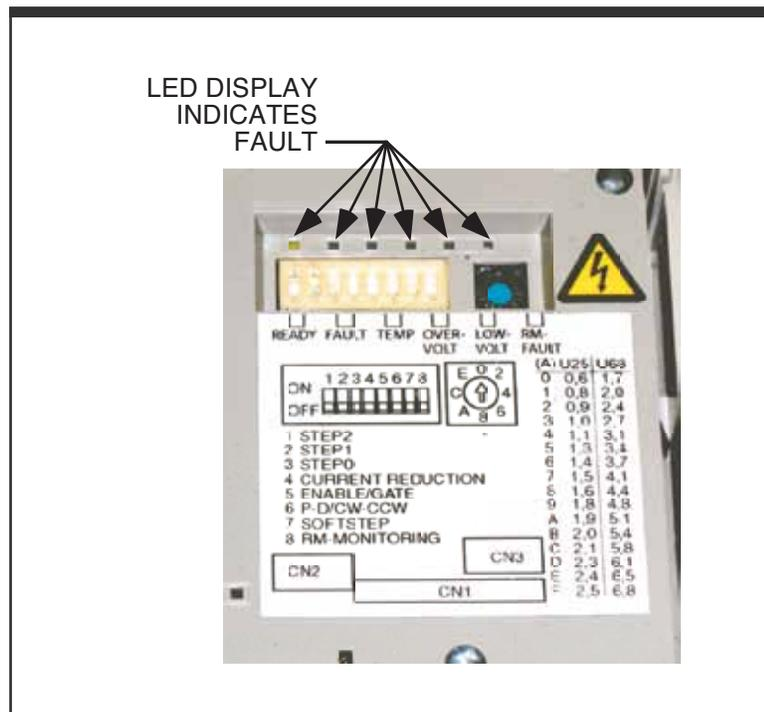

Figure 6-1. Stepper Drive Motor Fault Display
Stepper driver errors can be: over-temperatures (of motor or power amplifier), short circuit (between two motor phases or between motor phase against PE), over-voltage, low-voltage, rotation monitoring (RM) fault, power amplifier deactivation, or motor current free. Refer to the LED status display of the stepper motor drive inside the electrical cabinet (see Figure 6-1).
Replacement parts lists for the Shibuya Hoppmann L510A Labeler are listed on the following pages. When ordering replacement parts, please reference the model name and number of your labeler located on the serial plate (see Figure 6-1). This helps in making sure you receive the correct replacement parts.